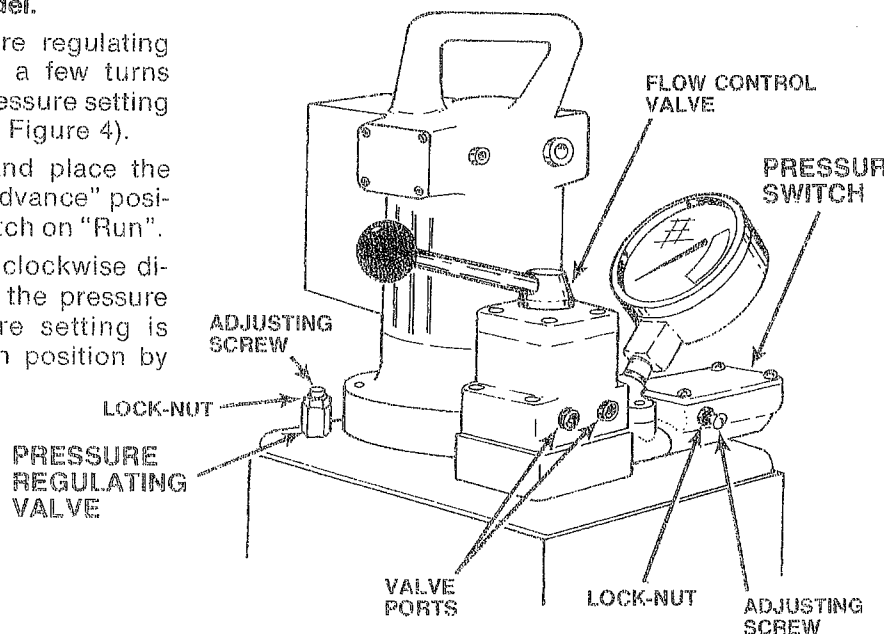

FIGURE 4
The pressure regulating valve shown in Figure 4 can be adjusted to by-pass oil at a desired pressure setting and the pump will continue to run.
The optional pressure switch, see Figure 4, can be adjusted to stop the pump motor at a desired pressure setting, and then restart the pump when the pressure falls below that setting.
• Place pipe plugs as shown in Figure 4, in valve ports when adjusting pressure regulating controls.
1. Loosen the lock-nut on the pressure regulating valve and turn the adjusting screw a few turns counter-clockwise to decrease the pressure setting to a *lower than desired* pressure. (see Figure 4).
1. Loosen the lock-nut on the pressure switch as shown in Figure 4. Turn the adjusting screw in a clockwise direction to increase the pressure setting to a higher than desired pressure.